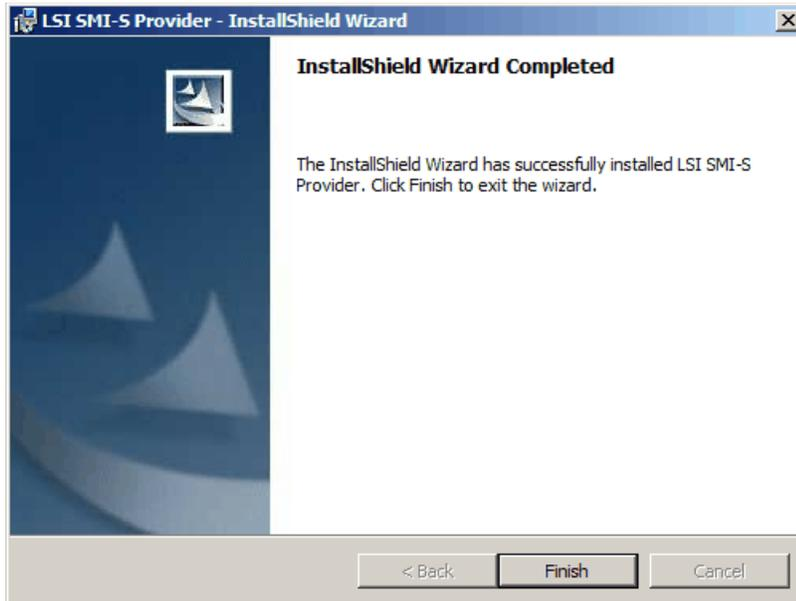

Figure 9-9 InstallShield Wizard Completed window
7. Click **Next** to finish the installation of SMI-S Provider. When the installation of the SMI-S Provider is complete, the **Pegasus CIM Object Manager** Service is started. Click **Finish** on the InstallShield Wizard Complete window (Figure 9-9).